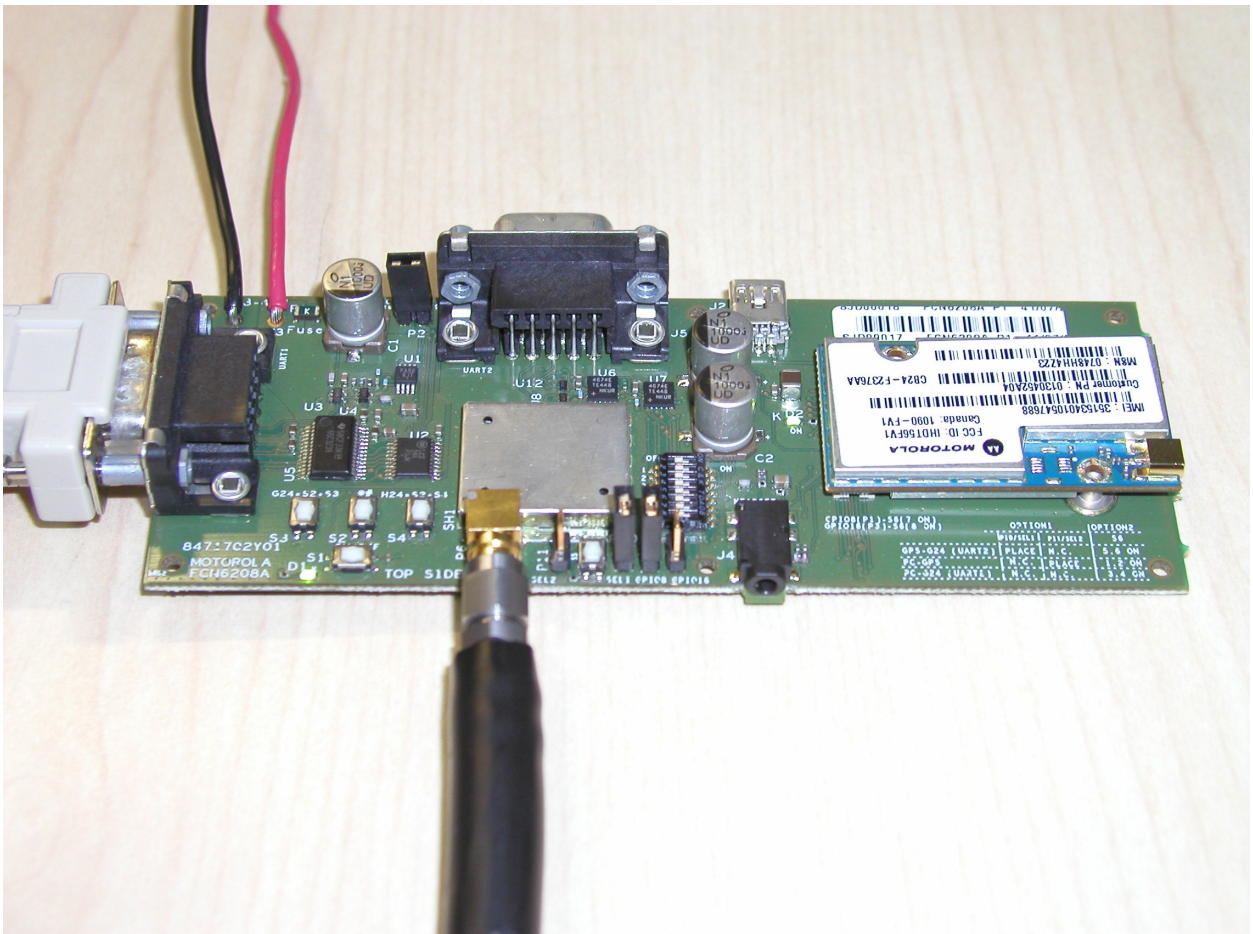

Figure 11 “G24-Java – GPS Module” Configuration
13. Configure jumpers for **G24-Java – GPS Module** communication path (only jumper P10 should be placed) – as shown in figure 11.